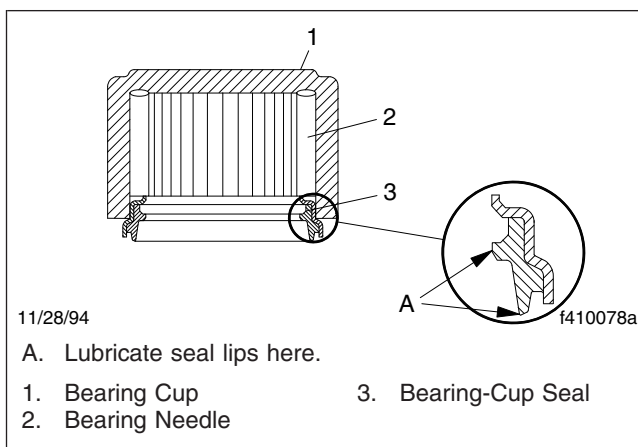
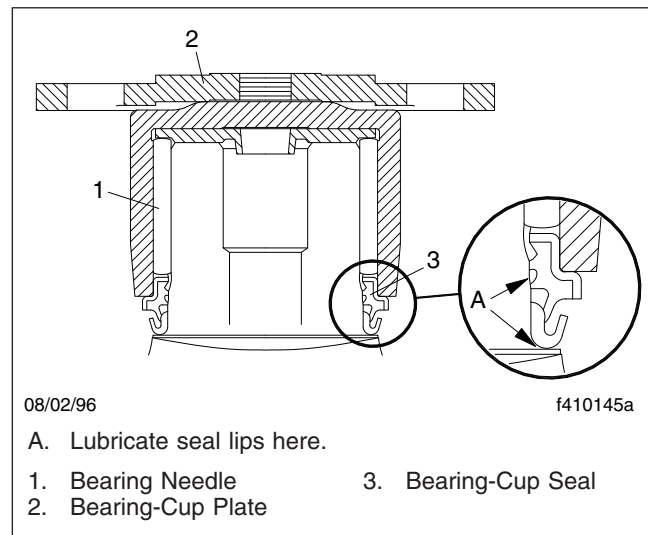

Fig. 10, Sectional View of a Half-Round End-Yoke U-Joint Bearing Cup
Fig. 11, Sectional View of a Full-Round Yoke U-Joint Bearing Cup
4. Check each bearing cup for missing bearing needles. Check the bearing-cup seals for nicks. See Fig. 10 for a half-round-yoke U-joint bearing cup, or see Fig. 11 for a full-round-yoke U-joint bearing cup. Replace the U-joint assembly if any bearing needles are missing or any seals are damaged.